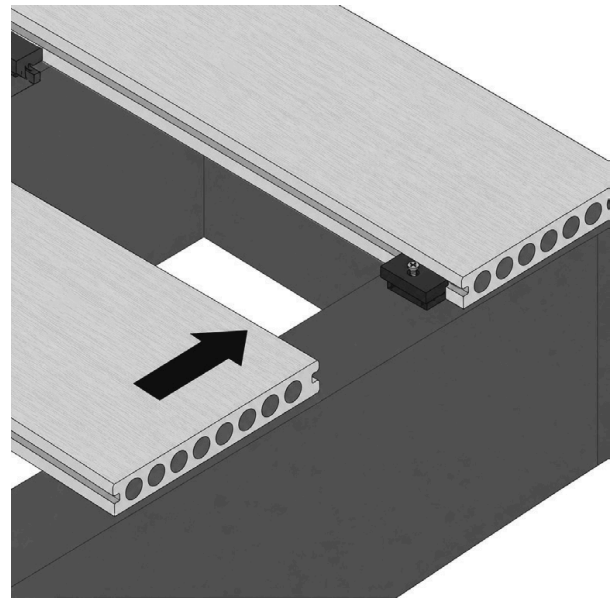

FIG. 5 - NEXT BOARD SLID ONTO THE HIDDEN CLIP
- 04 Place the next board into position against the hidden clips (fig. 5): slightly raise the outer edge of the board being installed and slide it onto the hidden clip; ensure the decking board edge contacts the spacer tab; lightly tap into position if required.